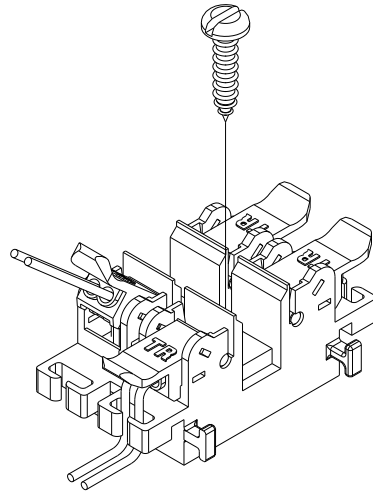

Figure 1
2.06 To keep wire pairs organized, route them through the molded wire looms as shown in Figure 1.